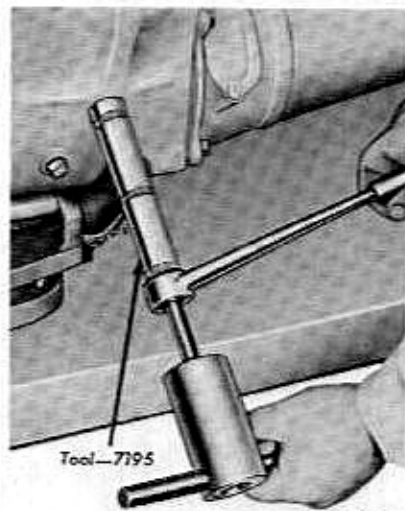

FIG. 34—Rear Servo Adjustment
3. Use the special tool shown in Fig. 34 to tighten the adjusting screw until the ratchet overruns, and then back off the adjusting screw 1 1/2 turns.